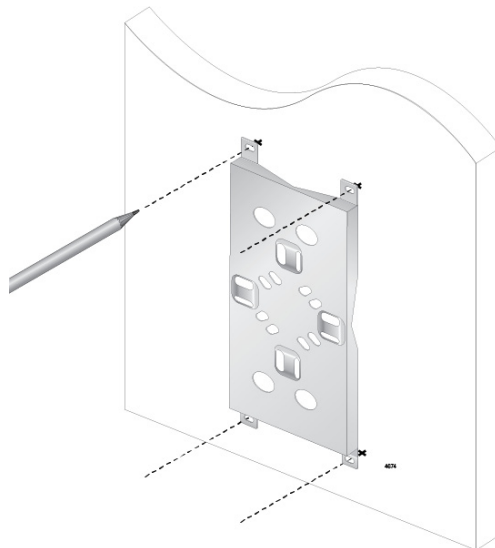

Figure 13. Mounting Base Hole Dimensions
3. Using the mounting base as a template, mark four holes with a pencil. See Figure 13.